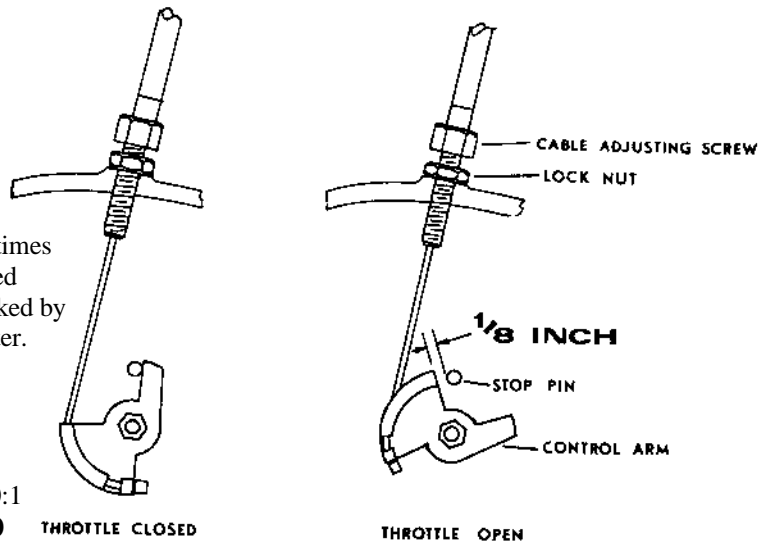

Figure 2
- c. Check the oil pump control arm (where the cable is connected) and note the pin in the oil pump body and 2 stops on the control arm. (Fig. 2). At the maximum open throttle position the stop should be within 1/8 inch of the stop pin. If the stop clearance is open more than 1/8 inch or the stop is closed against the pin, adjustment is necessary.